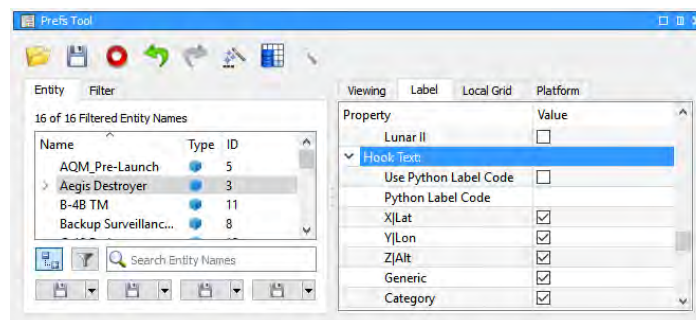

Figure 5.96: Hook Text in Label Tab
4. Click the **Label** tab and scroll down to the **Hook Text:** property, as shown in Figure 5.96.